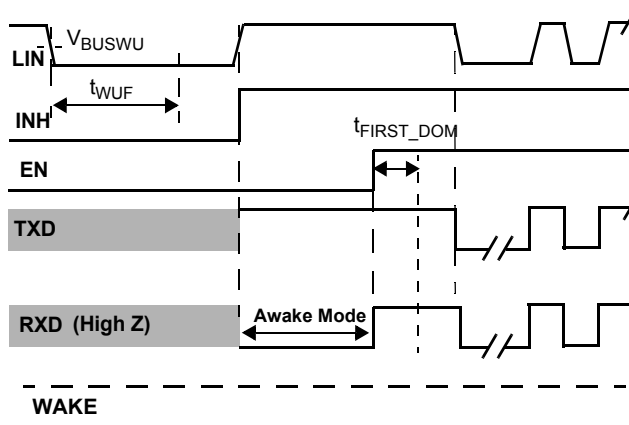
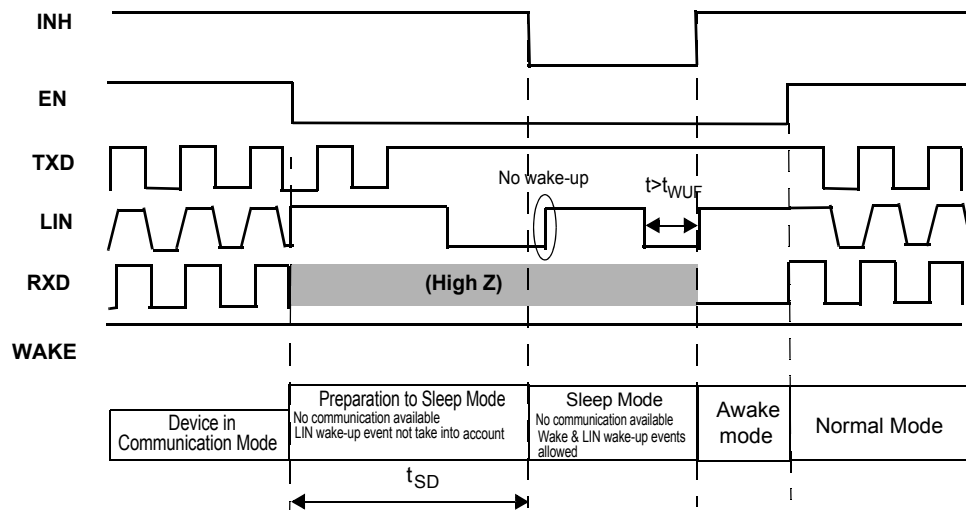

Figure 16. LIN Bus Wake-up with TXD High
Figure 20. LIN Bus Wake-up with LIN bus in Dominant During the Preparation to Sleep Mode
26. See Figure 16, 19, and Figure 20.
transition. This is illustrated in Figure 16 and 19. Once the wake-up is detected (during the dominant to recessive transition), the device enters into Awake mode, with INH HIGH and RXD pulled LOW.